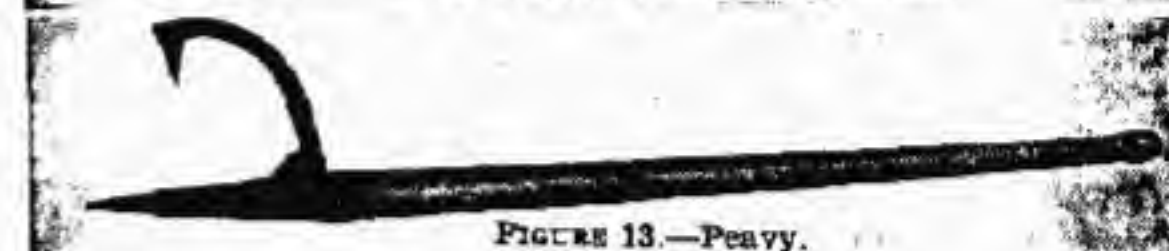

FIGURE 13.—Peavy.
i. Maul (see fig. 13).—The maul is a heavy, wooden driving tool, and should be used only to drive wooden stakes and posts. It is swung like the sledge.
f. Peavy (see fig. 13).—The peavy is a gripping and level-action tool, used to roll, haul, or carry heavy timber. To